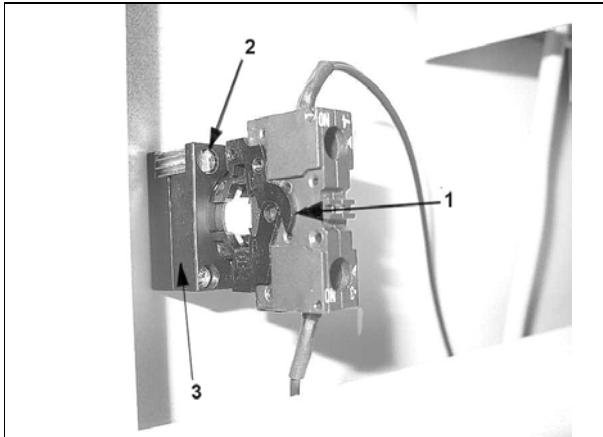
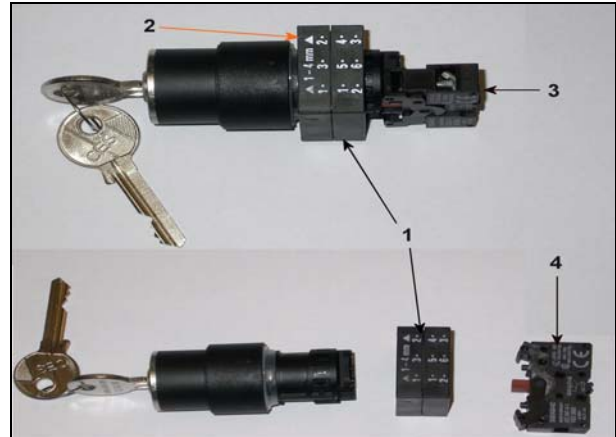

Fig. 3
Fig. 4
The key switch is delivered ready to assemble (Fig. 4).
For different plate thicknesses, the clamp fitting (1/Fig. 4) can be pushed onto the key switch at two positions.
Make sure that the clamp fitting is installed with the arrows of the lettering ▲1-4 mm▲ pointing towards the key switch (2/Fig. 4).
Tighten the screw of the clamp fitting (2/Fig. 3) clockwise and loosen it counterclockwise.
After having pressed the latch (1/Fig. 3) in the direction of the arrow the switch top (4/Fig. 4) of the key switch can be removed.
The switch top can be placed on the key switch in three different positions and then locked. In the center position the switch is not actuated by the cams. Therefore, the switch top must be placed off-center on the key switch and locked into place (3/Fig. 4).
- Tighten the screw (1/Fig. 3) clockwise, until the key switch is fixed firmly in the hole.
- Do not yet install the switch top (4/Fig. 4).